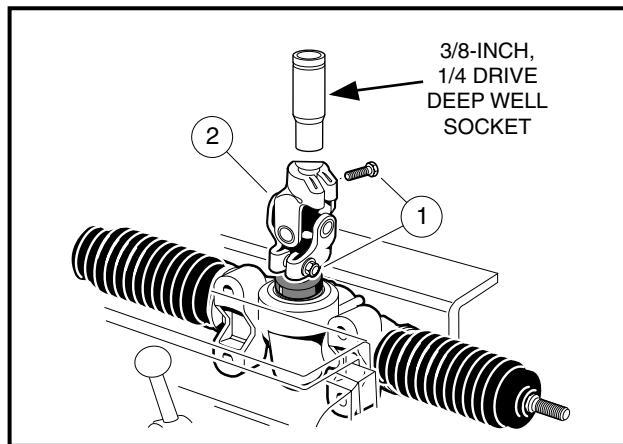

Figure 7-23 Rack and Pinion Resistance
11. Insert a 3/8-inch, 1/4-drive, deep-well socket into the steering column end of the universal joint (2) and tighten the bolts (1) to 15 ft-lb (20.3 N·m) (**Figure 7-23, Page 7-12**).